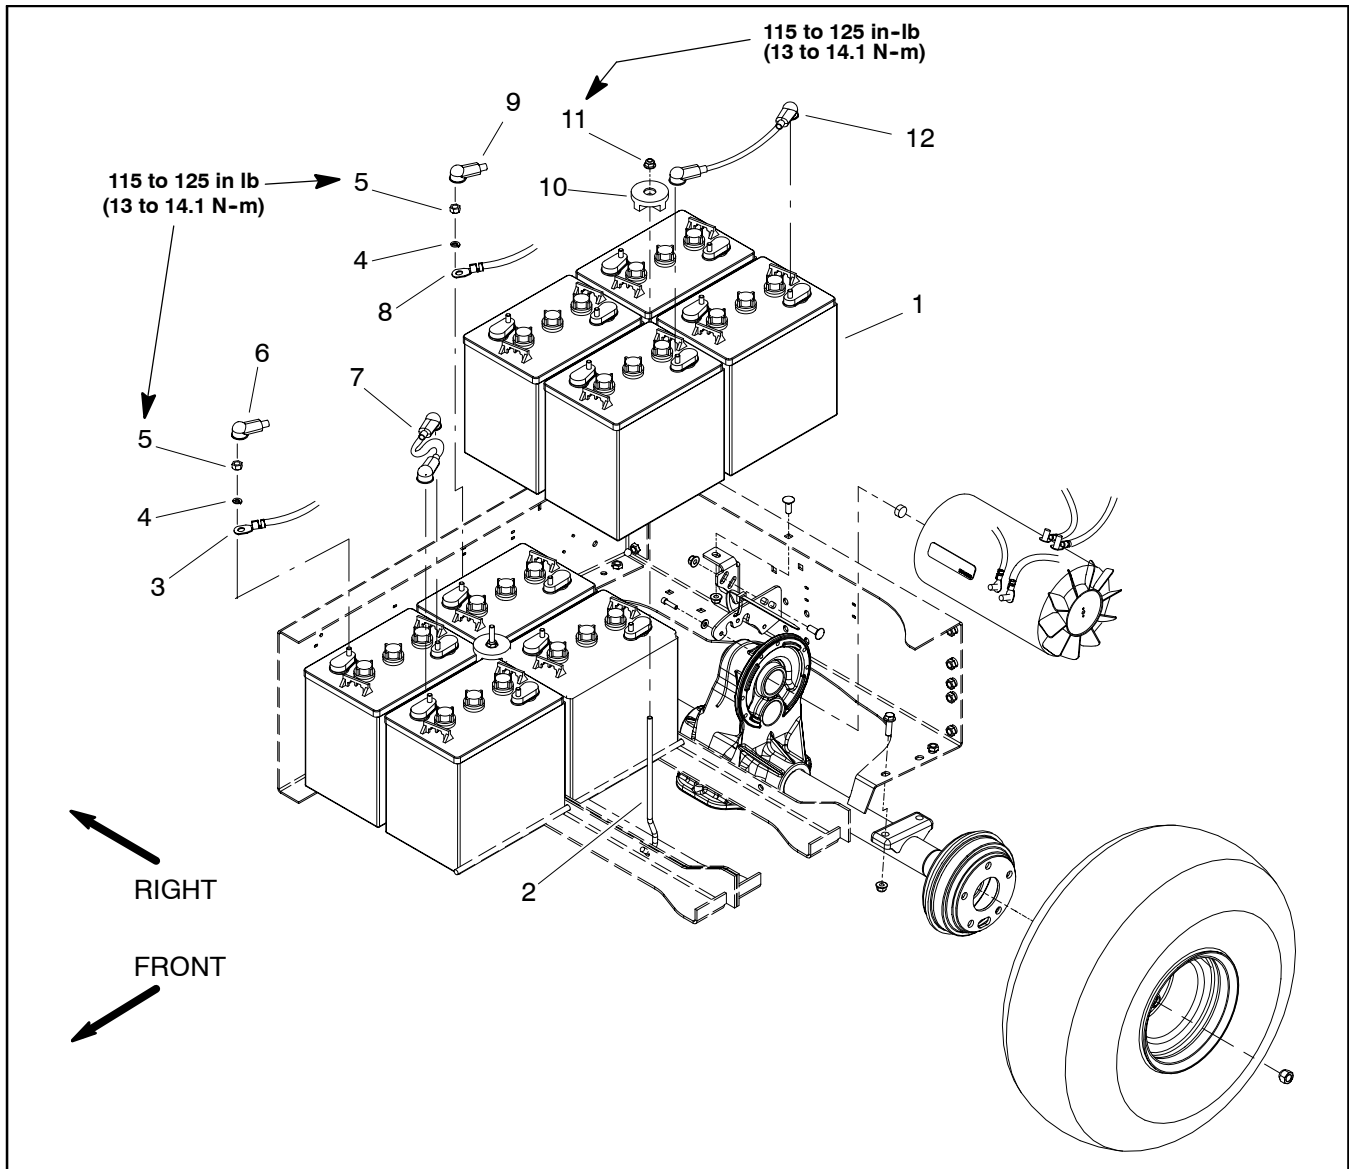

Figure 43
## Removal (Fig. 43)
## Installation (Fig. 43)
5. Install all but one of the battery cables used to connect battery pack including the positive (red) cable and negative (black) cable from vehicle (Figures 43 and 45). Make sure that cables are connected to correct battery terminal noting battery polarity. Install lock washer and nut on each battery terminal. Torque nuts from 115 to 125 in-lb (13 to 14.1 N-m) to secure cables.